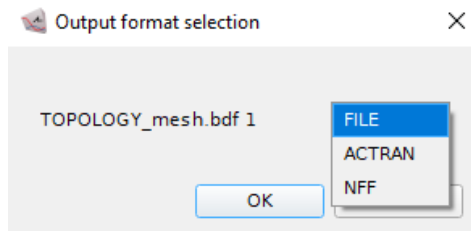

Figure 10.59: Topology output format selection - FILE, ACTRAN, NFF
- If the topology is created by reading a mesh file or by importing a DAT analysis, the topology has the attributes "File" and "Format" in its property window, as shown in Figure 10.37. In this case, this topology can be exported to EDAT explicit type (choose ACTRAN option in the format selection popup, as shown in Figure 10.59), to NFF type (choose NFF option) or to external file type (choose FILE option);